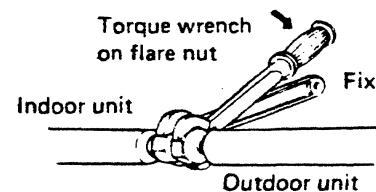

Fig. 27
2. Flare nut on large dia. tube should be torqued to 600~680 lb. in. Flare nut small dia. tube should be torqued to 300~340 lb. in. Fig. 27